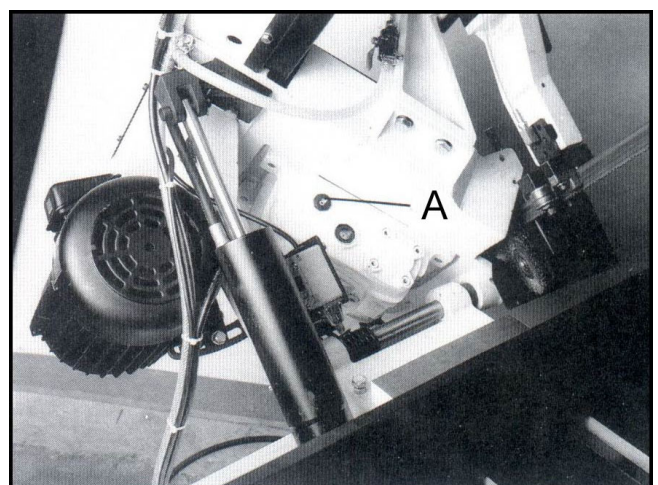

Fig. 17
4. Remove filler cap (A, Fig.17) and fill gear box with 50 weight gear oil until level reaches dot in middle of sight glass.